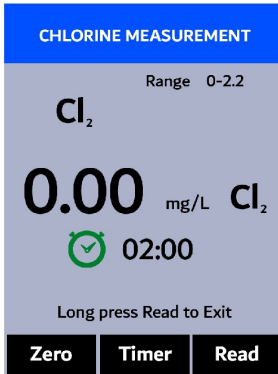

Figure 27.
3. Press **OK** (  ) to launch the **CHLORINE MEASUREMENT** screen (Figure 27).
4. Rinse the main module sample cell three times with deionized (DI) water. Fill the sample cell with DI water.